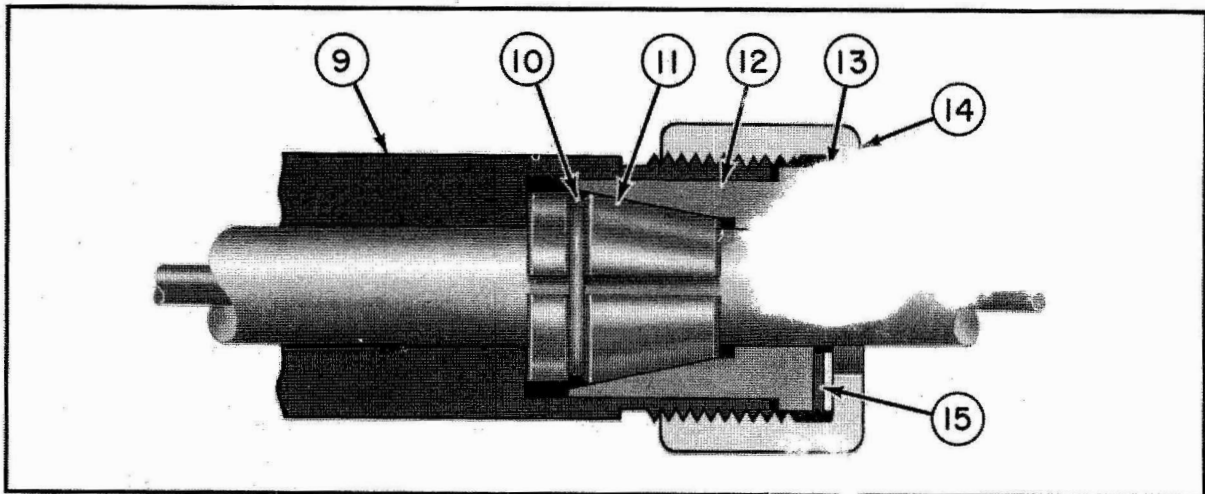

Figure 5-8j. MX-2326/U Partial Assembly, Inboard
Step 9. - Clip the three sections of the cable dielectric clamp, piece 11, around the cable dielectric (at the inboard end of the hull fitting) by installing the clamp ring, piece 10, into the clamp groove. The shoulder ends of the clamp sections should face the hull fitting. Push the clamp assembly into the hull fitting until it is properly seated. This should be done with a wood or plastic implement in order to avoid damage to the cable dielectric. Slide the wedge, piece 12, braid clamp washer, piece 15, thrust washer, piece 13, and clamping nut, piece 14, up over the cable (in the order named) to the fitting body. Seat the wedge in place by tightening the clamping nut onto the hull fitting (see figure 5-8j). Unscrew the clamping nut from the fitting. Remove the braid clamp washer and thrust washer from the inside of the clamping nut and secure them temporarily to the cable dielectric near the fitting body. Slide the clamping nut completely off the inboard cable end.